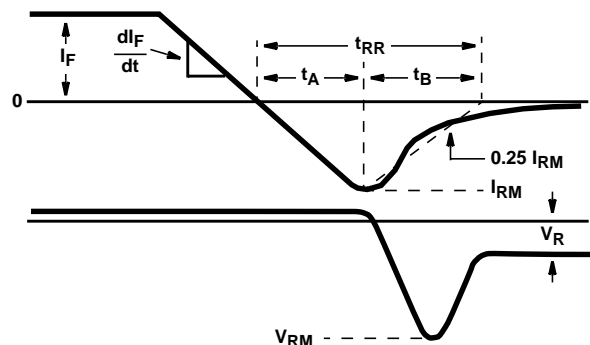

FIGURE 2.  $t_{RR}$  WAVEFORMS AND DEFINITIONS
- $t_{RR}$  = Reverse recovery time (Figure 2), summation of  $t_A + t_B$ .
- $t_A$  = Time to reach peak reverse current (See Figure 2).
- $t_B$  = Time from peak  $I_{RM}$  to projected zero crossing of  $I_{RM}$  based on a straight line from peak  $I_{RM}$  through 25% of  $I_{RM}$  (See Figure 2).